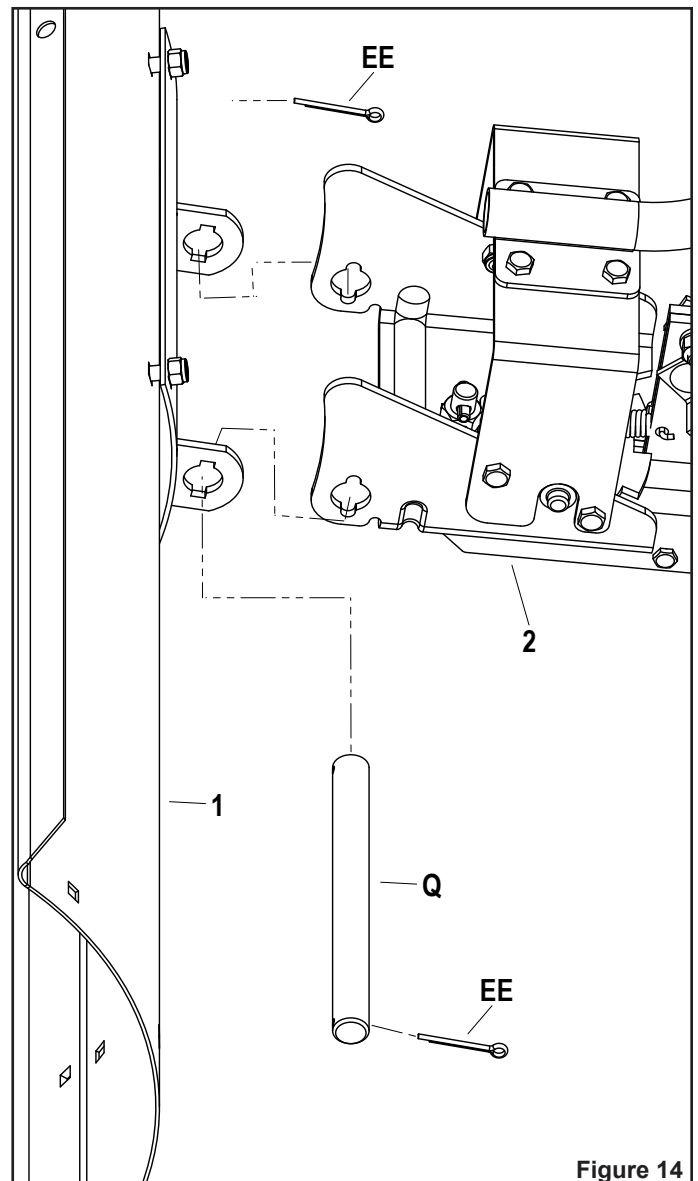

Figure 14
STEP 14: (SEE FIGURE 14)
- Center the channel sub assembly (2) between the tabs on the back of the blade assembly (1).
- Slide the pivot shaft (Q) through the holes in the tabs and the holes in the channel sub assembly (2).
- Secure the pivot shaft (Q) on both ends using a cotter pins (EE) by bending the ends.